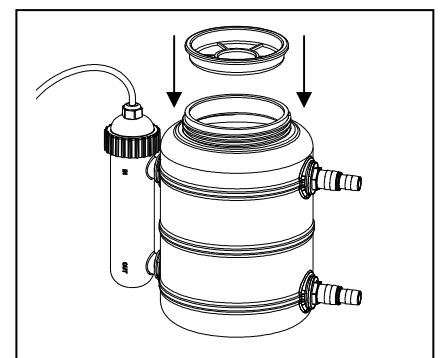

Fig. 7
7. Place the cover (with the o-ring attached) over the top of the tank. Fig. 7